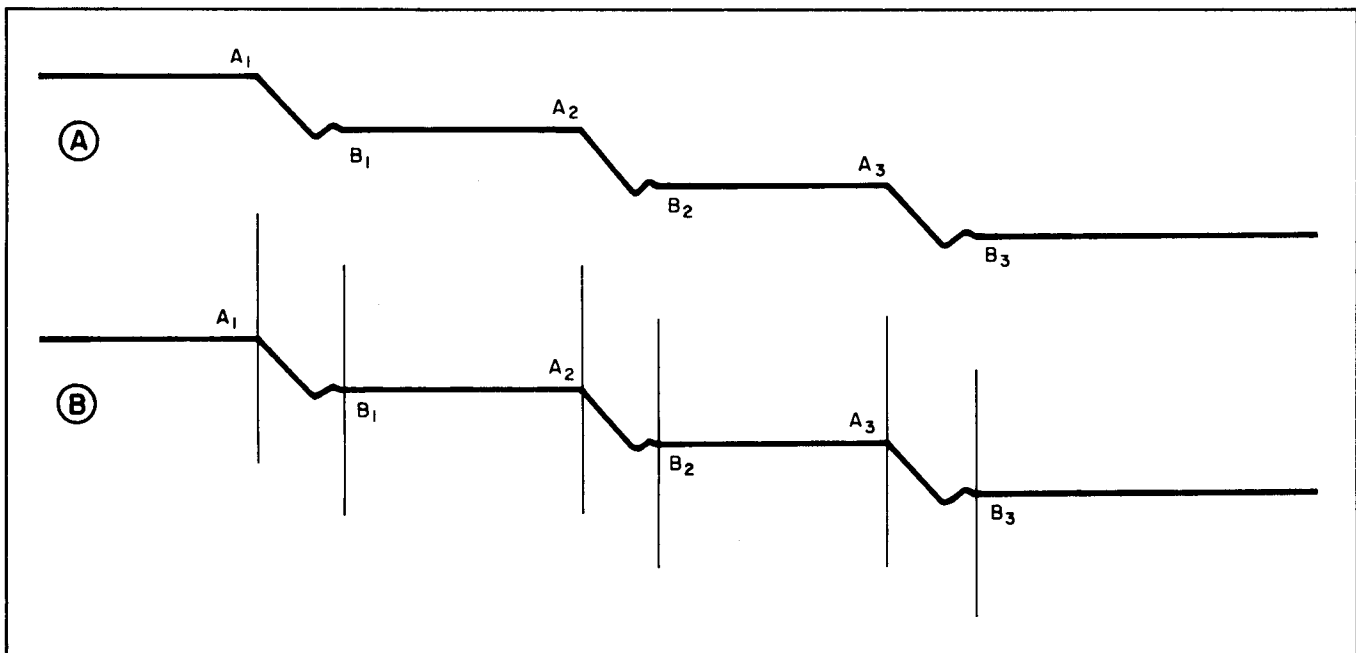

Figure 7-4. Pencilscope Trace
4. Remove the paper from the printer and place it on a flat surface. The pencilscope trace will be shown in Figure 7-4 (A). The little waviness just before point B is paper flutter, sometimes called overshoot. For clarity it is shown exaggerated. In most cases paper flutter will not be noticeable in the pencilscope.
6. Draw vertical lines at points A and B on the pencilscope. Make the vertical lines at right angles to the horizontal lines of the pencilscope. The pencilscope will now be as shown in Figure 7-4 (B). The time between line A₁ and line A₂ is the time for one complete print cycle, and the time between A₁ and B₁ is the paper feed time.